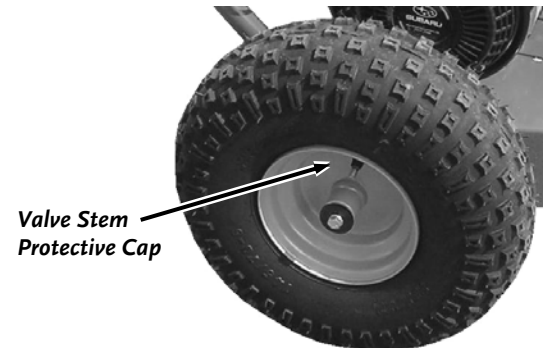

Figure 8
1. Remove the Valve Stem Protective Cap (**Figure 8**) and check the tire pressure with a Tire Pressure Gauge.